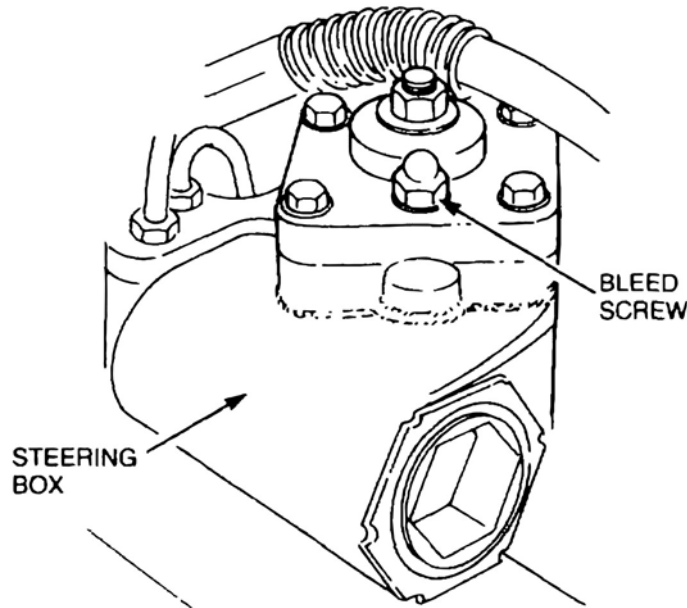

Figure 7 Power Steering Bleed Screw Location
- Slacken the bleed screw in the steering box (Figure 7) until fluid is observed at the bleed screw.